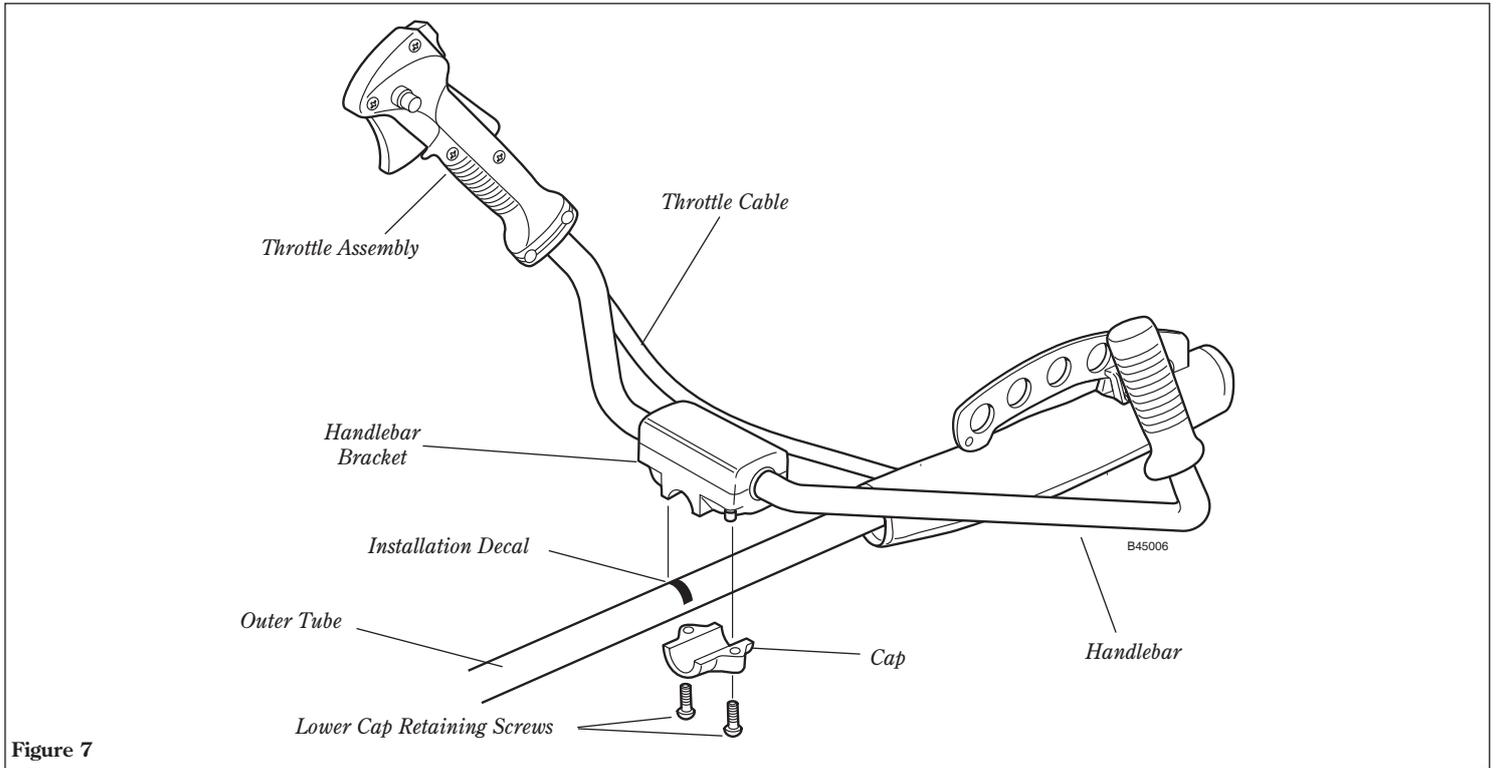

Figure 7
1. Remove the 4mm retaining screw and lower cap from the handlebar bracket. See Figure 7.